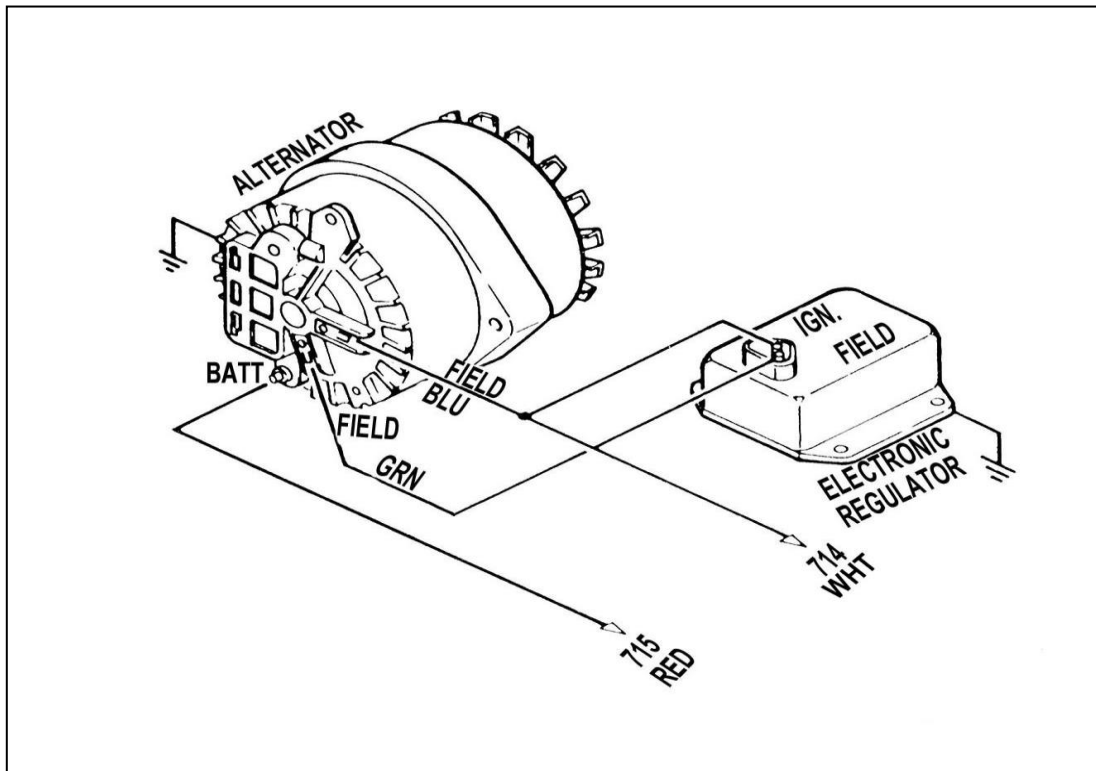

Figure 11.1 Mopar Alternator
11.1 Mopar Alternator. See Figure 11.1.
Note: *Your Alternator may not appear exactly as represented in Figure 11.1. The circuits are wired the same way, though.*
11.1.1 Mopar uses one of two kinds of voltage regulators: An electronic regulator and a mechanical one. The electronic voltage regulator is represented in **Figure 11.1**. It does not matter how the two terminals are connected, so long as they are BOTH connected. The mechanical regulator has terminals marked "F" (Field) and "I" (Ignition). In contrast to the electronic regulator, it DOES make a difference how these are connected.
11.1.2 Connect ENGINE SECTION A wire #714 (wht) to the Alternator Field (F) terminal as shown in **Figure 11.1**. Connect ENGINE SECTION A wire #715 (red) to the Alternator Output lug (Bat).
11.1.4 Connect a 14-gauge wire from the other Alternator Field terminal (as shown in **Figure 11-1**) to the second terminal of the ELECTRONIC Voltage Regulator OR terminal F of the MECHANICAL Voltage Regulator. On existing Mopar harnesses, this would be a green wire. Also connect a 14-gauge wire from this terminal to chassis ground.